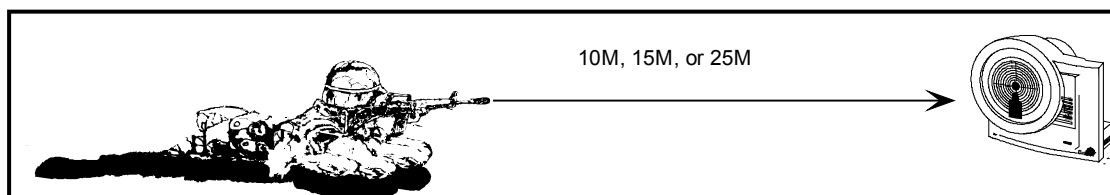

Figure C-3. Exercise 3.
- Step 1.** From the supported firing position (Figure C-3), the soldier fires three-round shot groups at the center of mass of the target overlay,